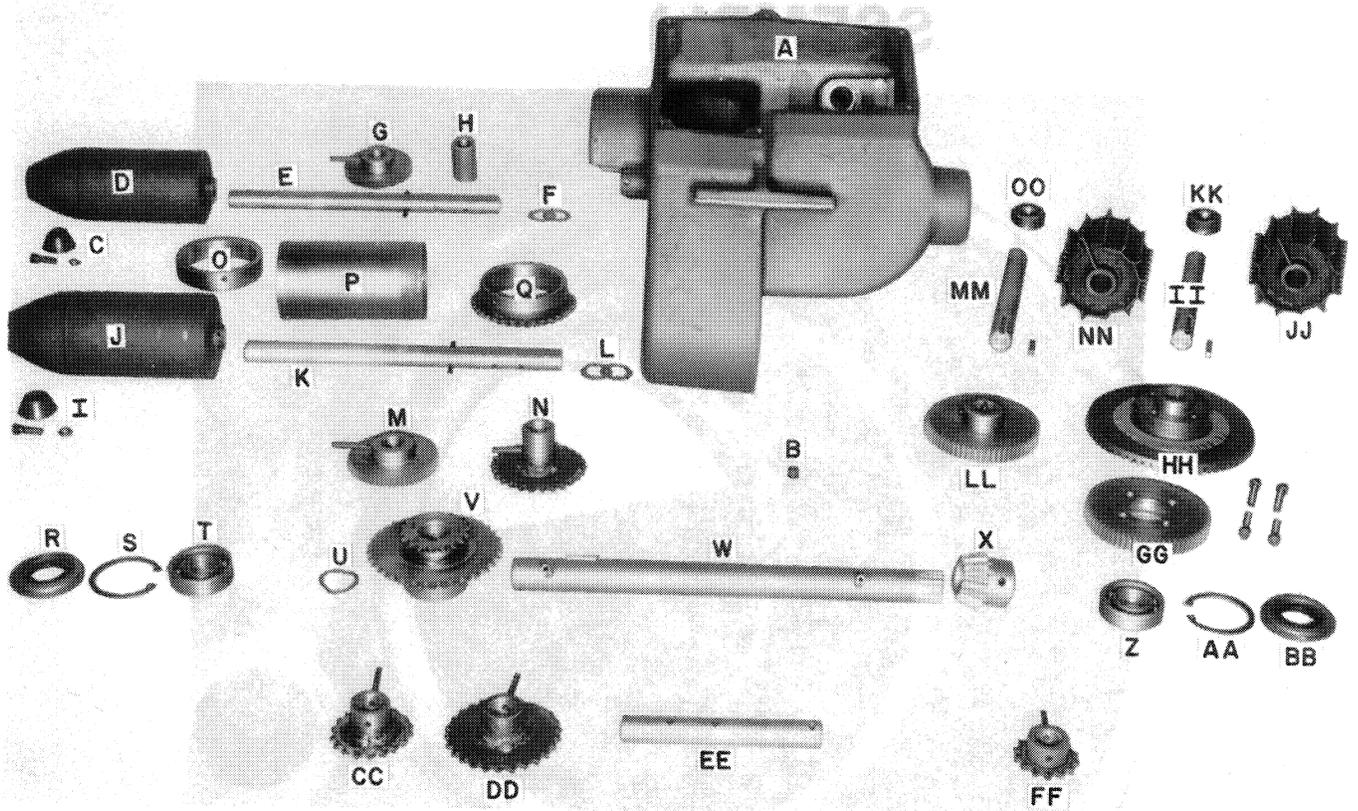
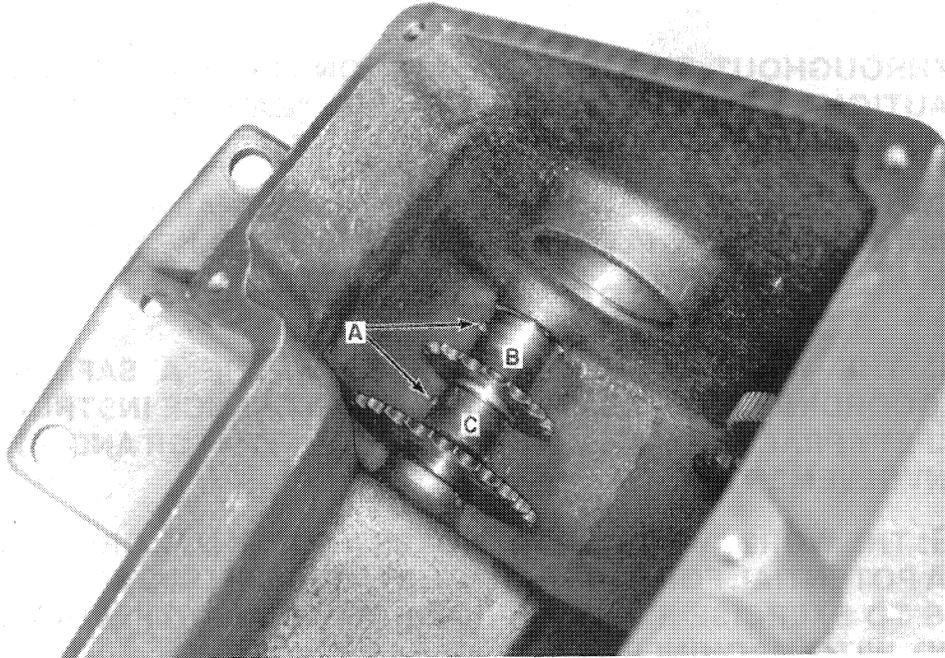

FIGURE 20
FIGURE 23
1. Install the conveyor jack shaft into the gearbox housing, sliding it through the nip roll sprocket, B, and the input shaft sprocket, C, Figure 23. Note the direction of the hubs of each of these sprockets prior to securing them to the shaft with two new friction pins at A, Figure 23. Also, note this conveyor jack shaft, EE, Figure 20, has three holes in it. The two holes on the left end of the shaft are for securing the two sprockets, DD and CC. The hole on the right hand end of the shaft is used for securing the external conveyor drive sprocket, FF, Figure 20.